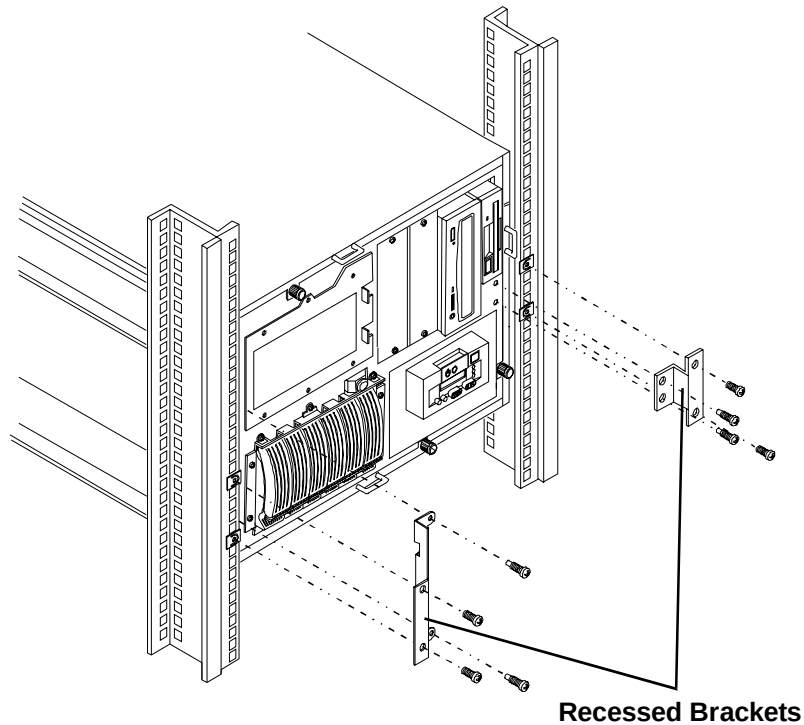

Figure 3-9. Installing the Recessed Mounting Brackets
2. Install the two screws that hold the tall, left-hand bracket to the face of the NetServer chassis (see Figure 3-9).
3. Install the two screws that hold the short, right-hand bracket to the face of the NetServer chassis (see Figure 3-9).
4. Install two screws into the two holes in the left-hand recessed bracket and into the two rack nuts (previously installed) on the left column (see Figure 3-9), and tighten.
5. Install two screws into the two holes in the right-hand recessed bracket and into the two rack nuts (previously installed) on the right column (see Figure 3-9), and tighten.